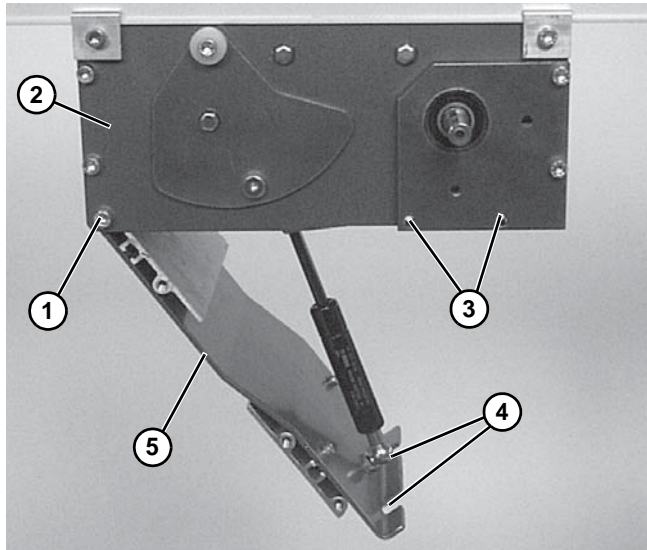

Figure 28
4. Loosen corner screws (**Figure 28, item 1**), on each side of the drive module (**Figure 28, item 2**).
5. Remove tension door screws (**Figure 28, item 3**) on each side of the drive module.
*With vertically mounted gearmotors, tension door screws (**Figure 28, item 3**) are removed from one side when the gearmotor mounting package is removed.*
6. Using finger grip holes (**Figure 28, item 4**), open the tension door (**Figure 28, item 5**) to release conveyor belt tension.